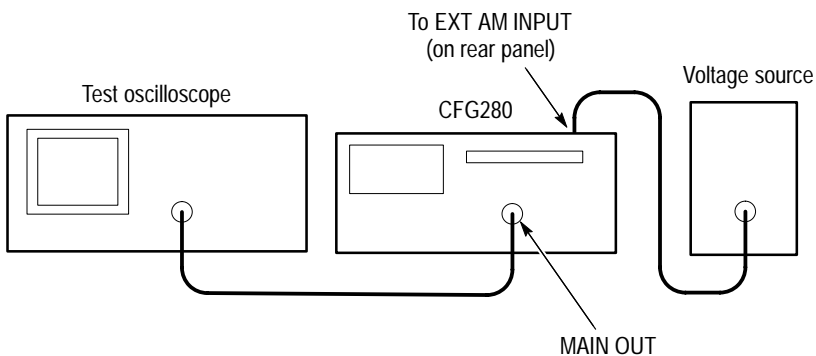

Figure 7: Amplitude Modulation Test Setup
1. Connect the **MAIN OUT** connector on the CFG280 Function Generator to the oscilloscope input (see Figure 7).
4. Connect an external voltage signal to the **EXT AM INPUT** on the rear panel of the instrument (see Figure 7).